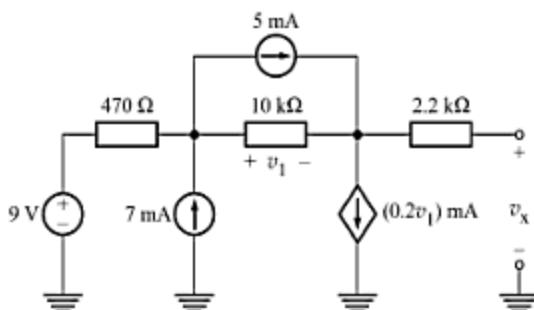

Fig. A-120
- A-87. Use nodal analysis to obtain the value of  $v_x$  in the circuit of Fig. A-120. [Ans. -38.69 V]